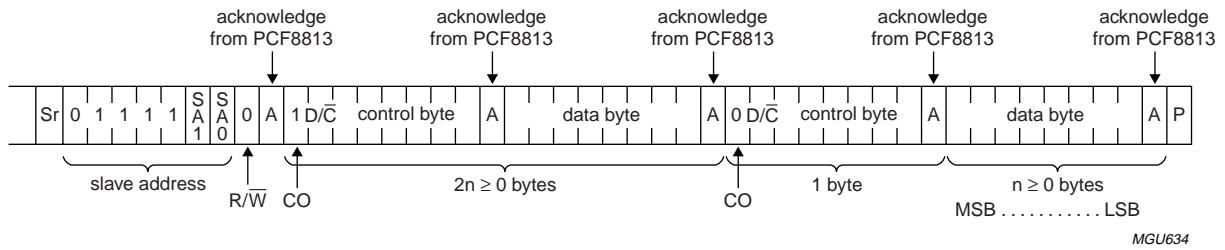

Fig.31 Master transmits in Hs-mode to slave receiver; write mode.
After acknowledgement of a write (W) cycle, one or more command words follow which define the status of the addressed slaves. A command word consists of a control byte, which defines CO and D/ $\bar{C}$ , plus a data byte (see Fig.31 and Table 4).